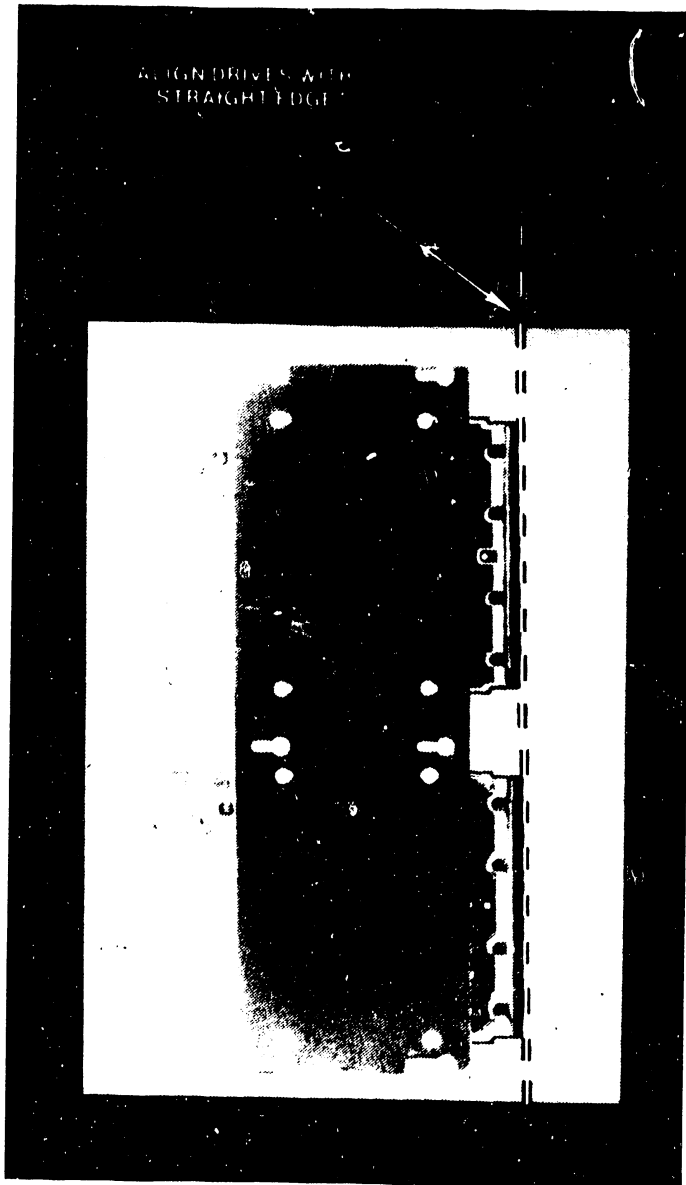

FIGURE 4 DISK DRIVE POSITION ALIGNMENT
- f. Align disk drives (see Figure 4): Place straight-edge against the front of the two drives, and move new drive to align the front of the two drives. (This step compensates for slightly differing distances, on the MPI and Tandon drives, between the mounting-screw holes and the front surface of the respective drives.) When the drives are aligned, tighten screws.